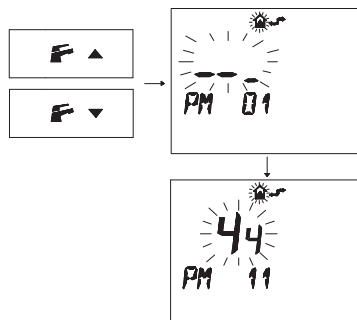

Fig. 7.30
- Press buttons **F** and **▲** or **F** and **▼** to display the “PM11” program of the pump post-circulation (Fig. 7.30).